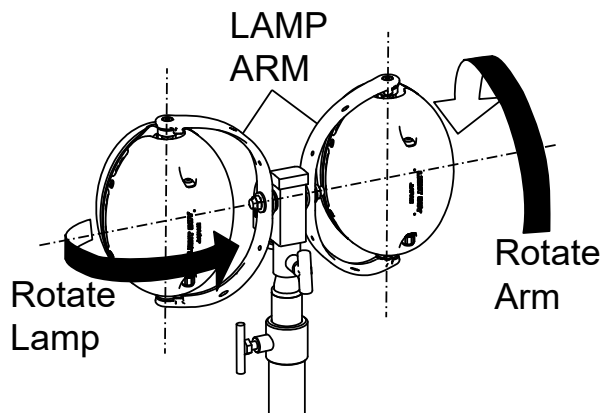

Figure 10. Rotating Lamp Arm
1. Hold the arm of the individual lamp and rotate it to the desired direction (Figure 10). It is not necessary to loosen the nut to turn the lamps.
2. To rotate the lamp to a desired angle, hold the individual lamp and rotate (Figure 10).